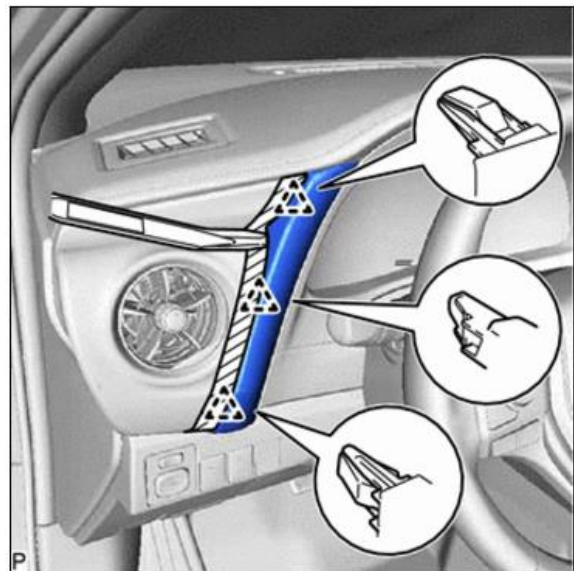

Fig. 4
- Using molding remover, disengage the 3 clips and Remove the No.1 Meter Hood Cluster shown in **Fig. 4**